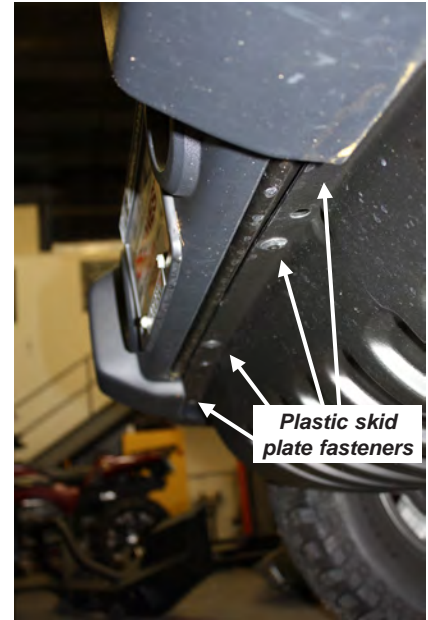

Figure 2
1. Remove skid plate by removing 6 plastic Phillips head fasteners, 4 across the bottom of the bumper and 1 behind each end of the blocker beam. Figures 2 and 3.